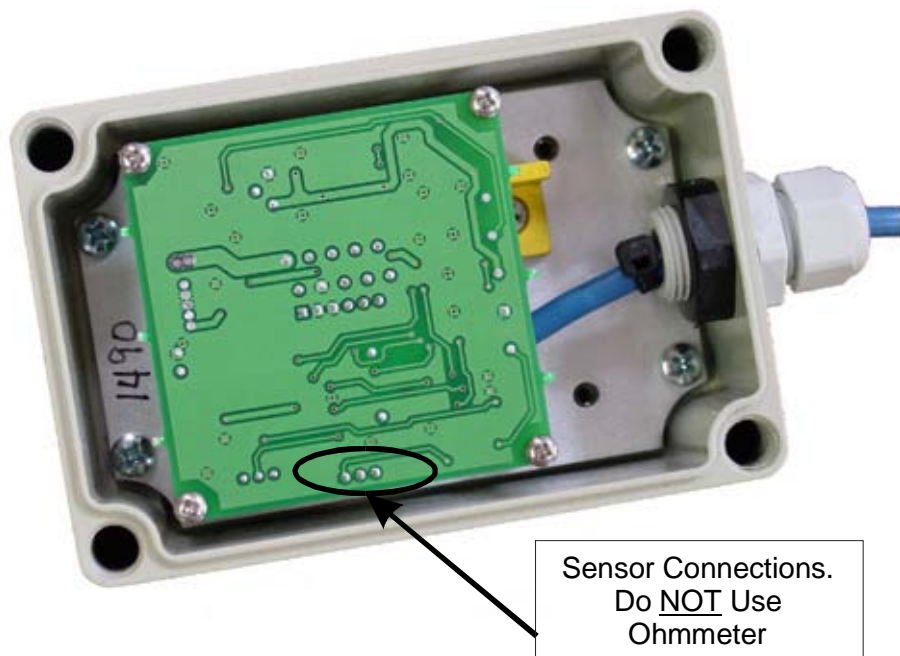

Figure 8. Circuit Board Inside Model 801 Enclosure
**WARNING:** NEVER USE AN OHMMETER TO MEASURE THE TILT SENSORS INSIDE THE TILTMETER. APPLYING DC CURRENT THROUGH THE SENSORS WILL CAUSE PERMANENT DAMAGE THAT IS NOT COVERED BY THE WARRANTY. The tilt sensor connections to the circuit board are shown in Figure 8. NEVER use an ohmmeter at these locations.